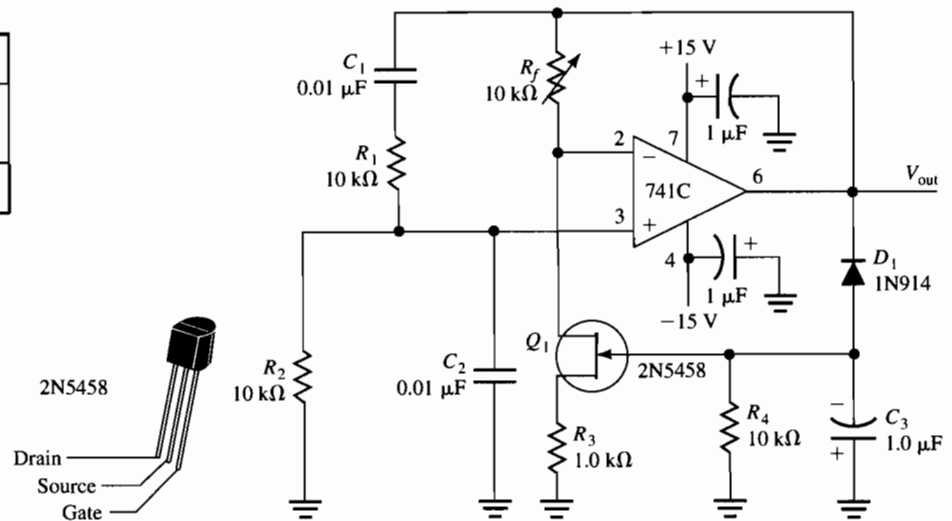

Figure 47-3
3. The basic Wien bridge in step 2 has unstable gain and requires some form of automatic gain control to work properly. Field-effect transistors are frequently used for AGC circuits because they can be used as voltage-controlled resistors for small applied voltages. The circuit illustrated in Figure 47-3 is an FET-stabilized Wien bridge. Compute the expected frequency of oscillation from the equation
4. Construct the FET-stabilized Wien bridge shown in Figure 47-3. The diode causes negative peaks to charge C_3 and bias the FET. C_3 has a long time-constant discharge path, so the bias does not change rapidly. Note the polarity of C_3 . Adjust R_f for a good sine wave output. Measure the frequency and record it in Table 47-2.